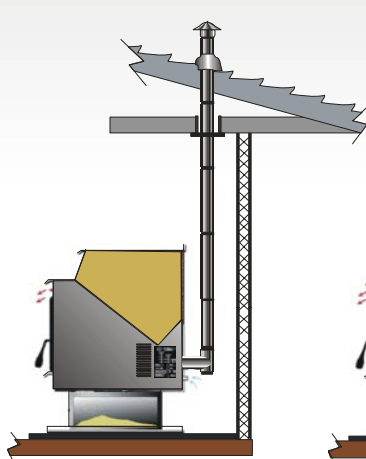

Figure 14
VERTICAL INSTALLATIONS: (Figures 14, 15, 16, 17, & 18)
-  **VERTICAL, THROUGH THE CEILING**, through another room or space, or attic, then through the roof, terminating with a rain cap. Figure 14.